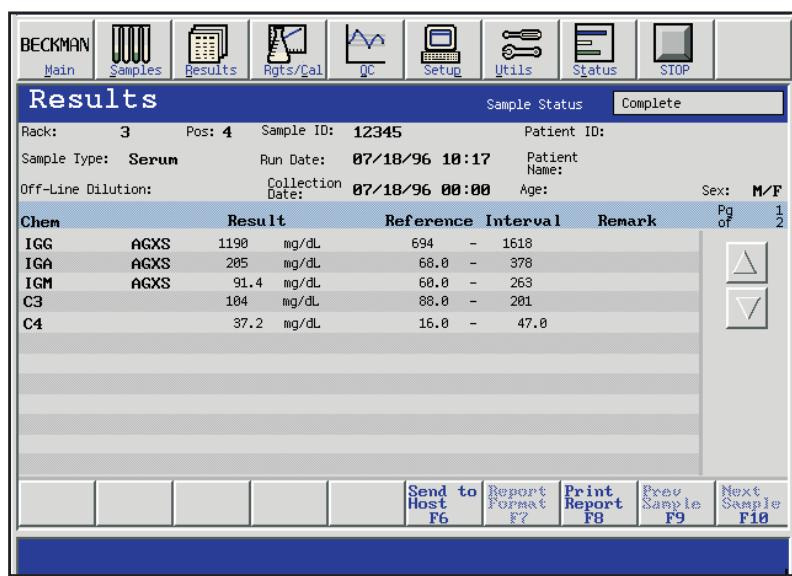

Figure 8.2     Results Screen
- Select **Print Report [F8]** (refer to Figure 8.2).